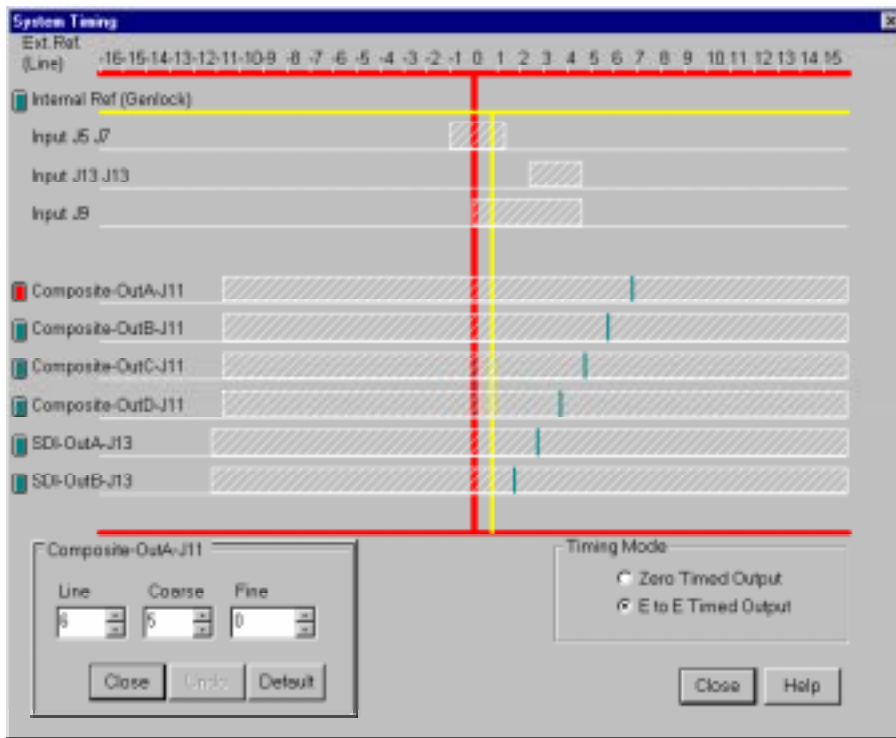

Figure 8. System Timing dialog box, E to E timed
2. Click any button to the left of the internal reference (genlock) or video output signal name and the timing edit box appears in the bottom left of the System Timing dialog box (see Figure 8 which shows the dialog box when the outputs are E to E timed).